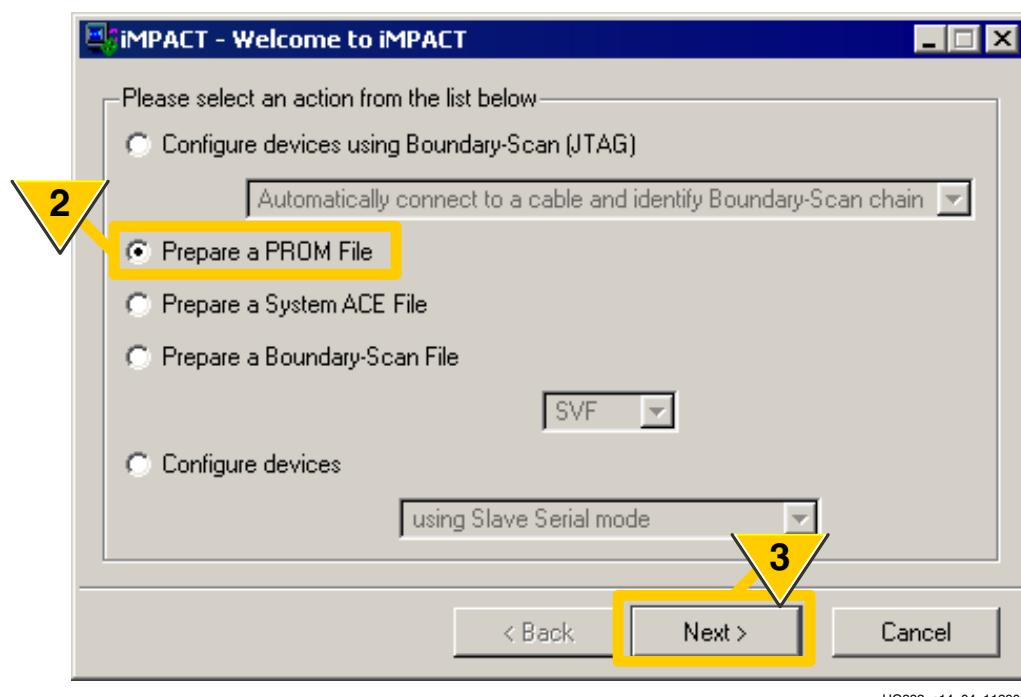

Figure 14-2: Prepare a MultiBoot PROM Image
2. As shown in Figure 14-2, choose **Prepare a PROM File**.